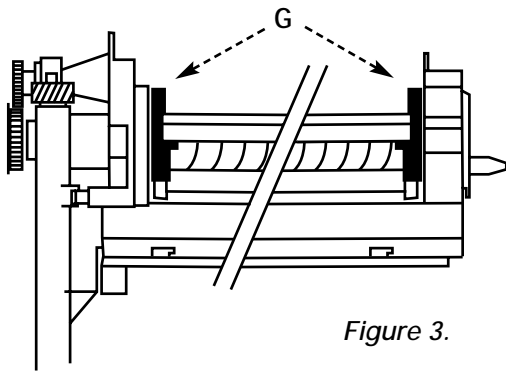

Figure 3.
11. Install the new Katun cleaning blade side seals (see figure 3). **NOTE:** Do not touch the surface of the drum cleaning blade when installing the seals.